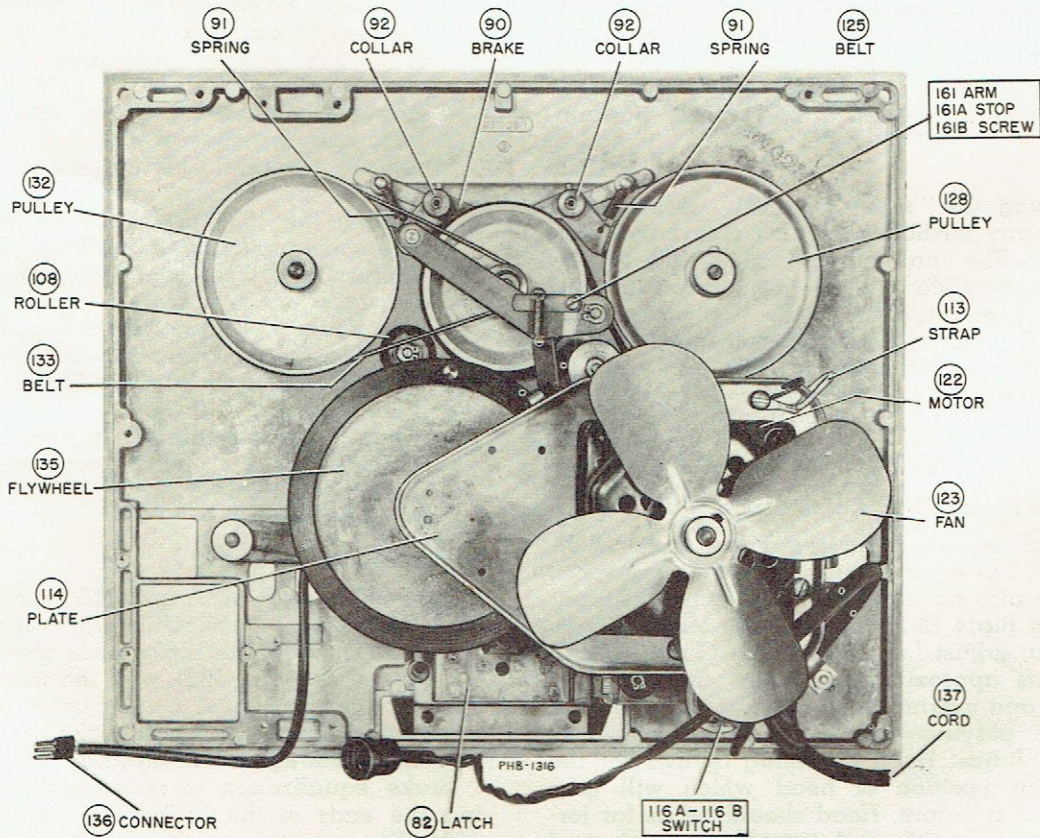

Figure 8—Bottom View of Tape Transport Complete with Motor and Flywheel
Takeup belt tension roller (158) touches takeup drive pulley (132). Adjust position of takeup arm stop (161A) to provide clearance. Refer to figure 8.